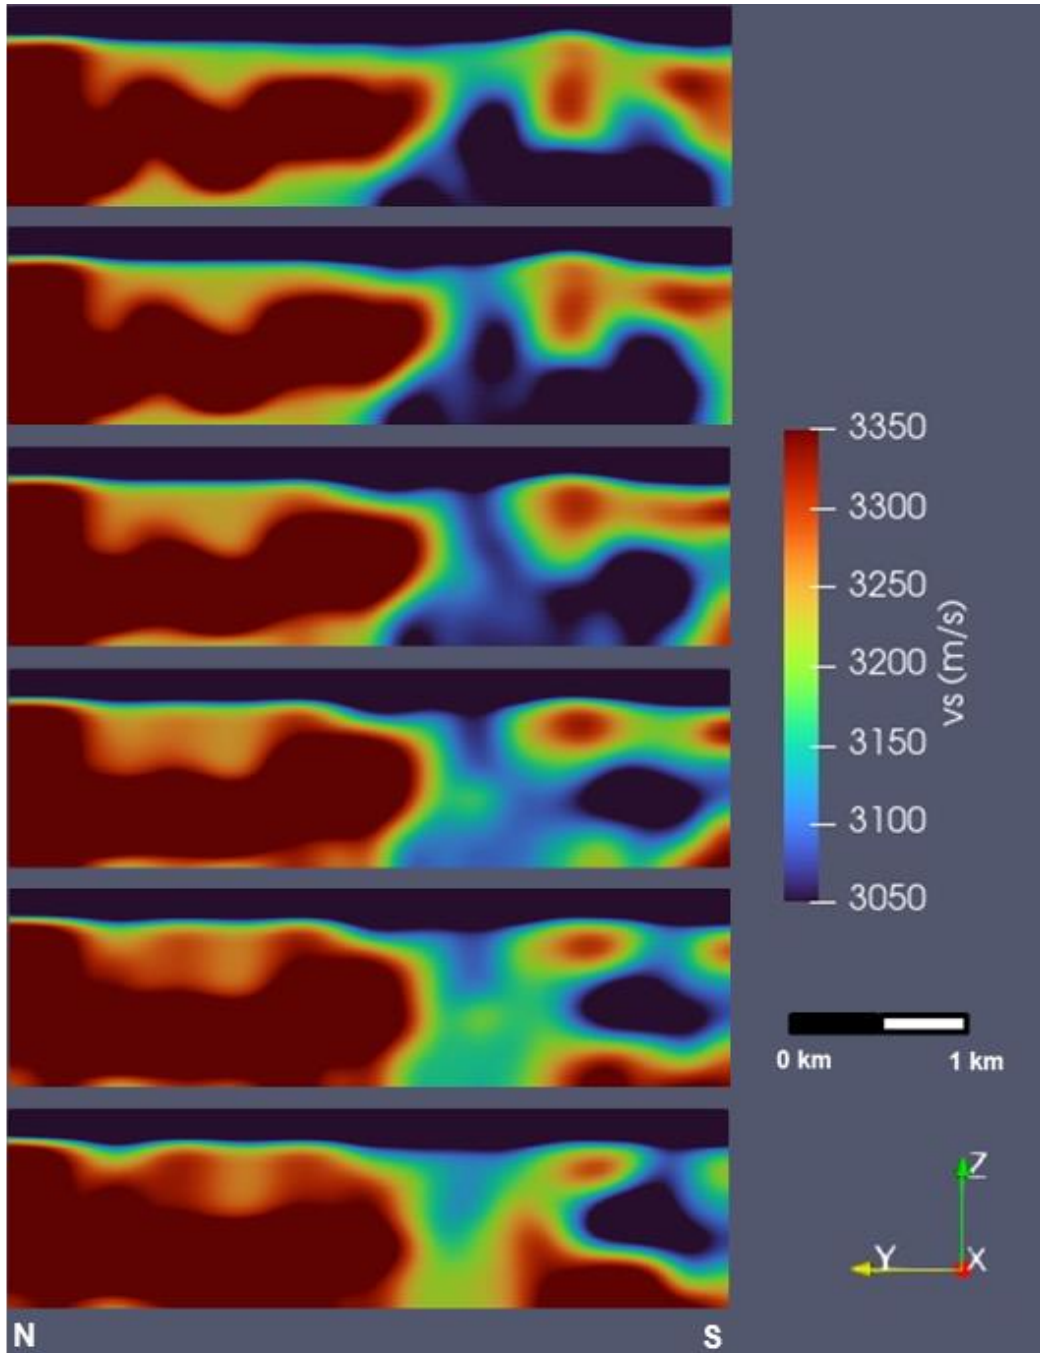

**Figure 6:** Depth slice of Area 1 showing velocity distribution at 250m below surface, with preliminary structural interpretation.
The ANT data in Area 1 highlighted two structural trends (see Figure 6).
- The second is a more subtle NW-SE trend, that is thought to be related to pegmatite emplacement. An anomalous velocity low is seen to be contained within this NW-SE trend in Figure 6.